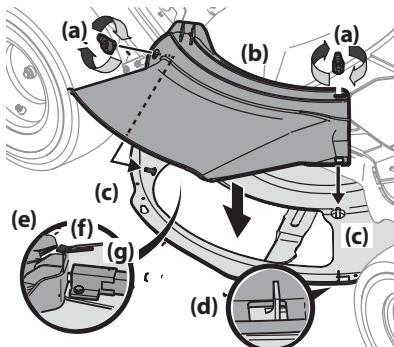

Figure 8
1. Remove the wing knobs (a) installed on the mowing deck and retain for later installation. See Figure 8.
2. Install the deck chute (b) into the discharge opening on the deck. The rear of the chute should be under the tab (f) on the rear deck bracket (g). The studs (c) on the deck surface will fit through the holes on the upper portion of the deck chute. The small tab (d) on the deck lip area will fit through the square cutout on the lower portion of the deck chute. See Figure 8.
IMPORTANT! Make certain that the upper-rear portion of deck chute (b) is depressing the safety switch (e) located on the deck surface and under the tab (f) on the rear deck bracket (g). The blade(s) will not start without the deck chute (b) properly in place. See Figure 8.
3. Secure the deck chute (b) by tightening the wing knobs (a) removed in Step 1. See Figure 8.